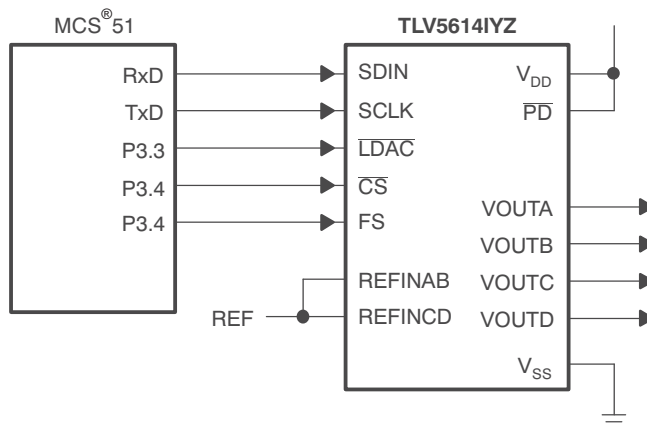

Figure 18. TLV5614IYZ Interfaced With MCS51
Figure 18 shows an example of how to connect the TLV5614IYZ to an MCS51 Microcontroller. The serial DAC input data and external control signals are sent via I/O Port 3 of the controller. The serial data is sent on the RxD line, with the serial clock output on the TxD line. Port 3 bits 3, 4, and 5 are configured as outputs to provide the DAC latch update ( $\overline{\text{LDAC}}$ ), chip select ( $\overline{\text{CS}}$ ) and frame sync (FS) signals for the TLV5614IYZ. The active low power-down pin ( $\overline{\text{PD}}$ ) of the TLV5614IYZ is pulled high to ensure that the DACs are enabled.